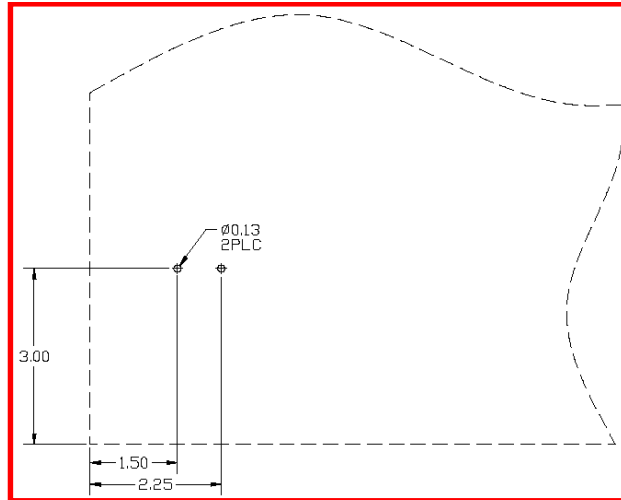

Fig 6 – Fire suppression clamping
- h. Install the two P-clamps supplied (**NFI PN 6350363**) on slave pack cabinet cover. Mark their location per Fig 6 and drill holes using a 1/8" drill bit. Secure with two 1/8" aluminum rivets (**NFI PN 60R02007**) and two #4 flat washer (**NFI PN 10W94000**). Ensure a small amount of silicone (**NFI PN 401722**) is placed over the rivets to ensure a water tight seal. This is to ensure the new fire suppression line exits through the new notch on the UCAP box.